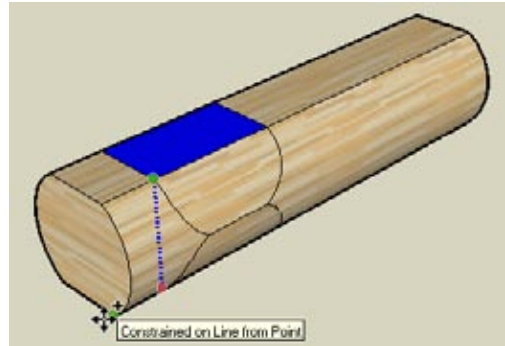

Figure 3-70
9. Select the painted face and copy it straight down to the bottom, as shown in Figure 3-70. (You can press Shift to lock in the blue direction, and click anywhere on the bottom of the log. Or you can tap the up arrow and then click the bottom of the log.)